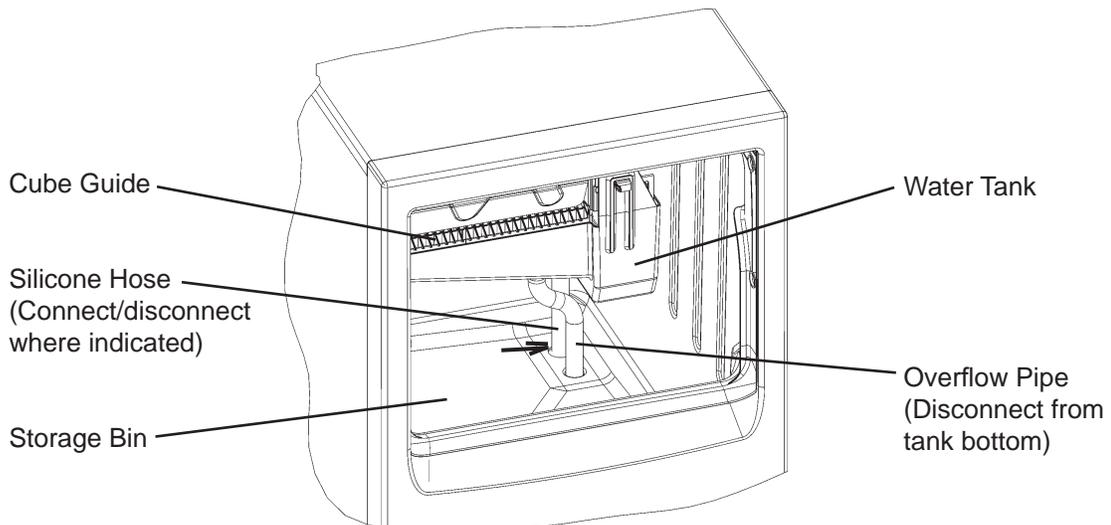

Fig. 15
- 2) Drain the water tank by pulling off the overflow pipe from the water tank bottom and the silicone hose from the storage bin bottom. See Fig. 15.